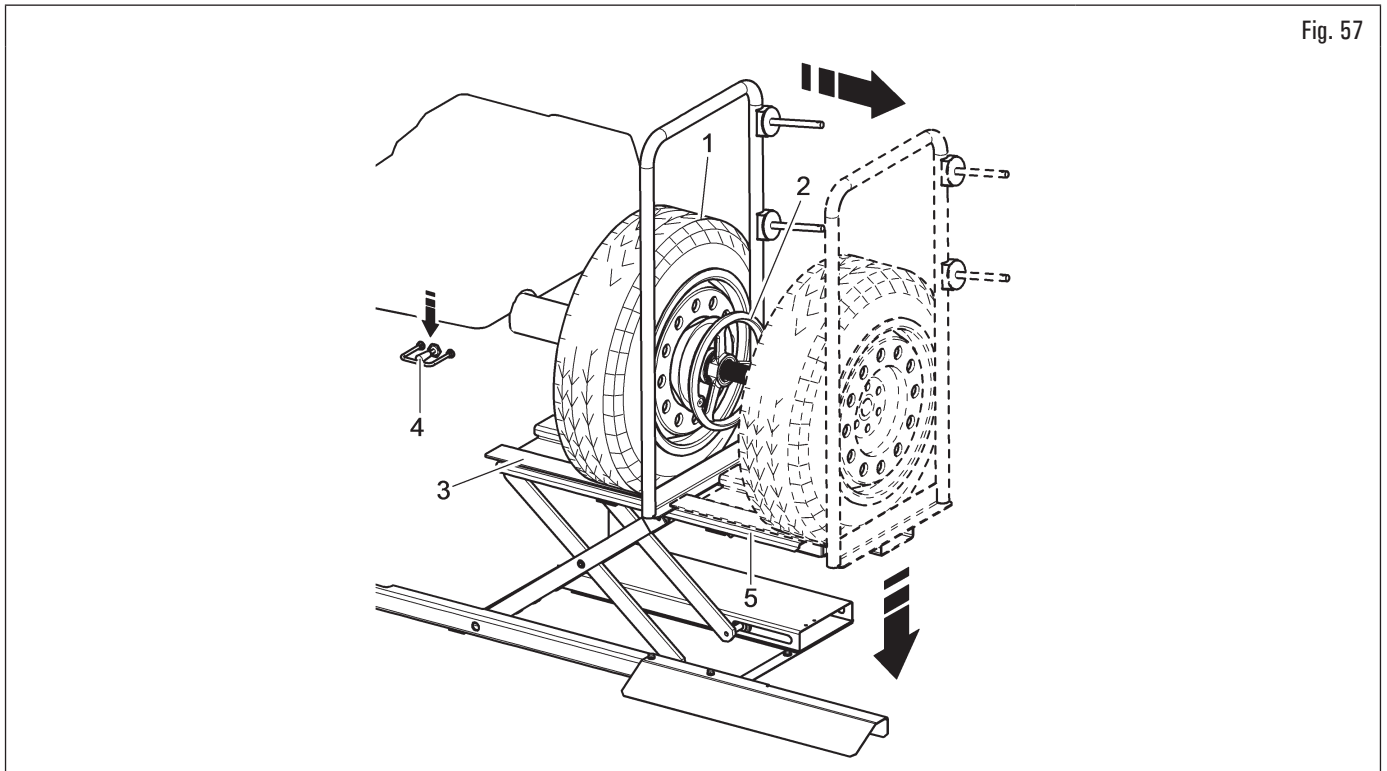

Fig. 57
3. unlock the wheel (Fig. 57 ref. 1) engaged to the chuck, removing the locking devices (Fig. 57 ref. 2);
4. move the wheel support towards the right (Fig. 57 ref. 3) together with the tyre that is leaning against it;
5. lower for descent device control (Fig. 57 ref. 4) and then lower the ground the footboard (Fig. 57 ref. 5);